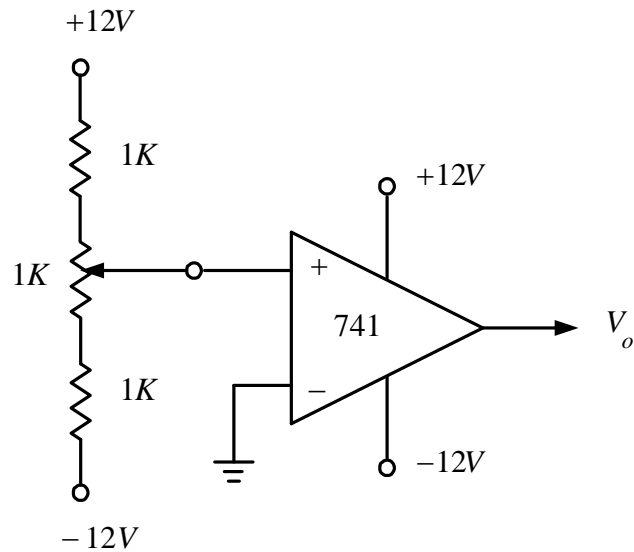

Fig. 4. Noninverting Comparator Test Circuit.
3. Turn off the power and change the circuit to that of Fig. 4. Turn on the power and slowly change the input pot and observe the output state change with your scope. Can you see any erratic behavior?